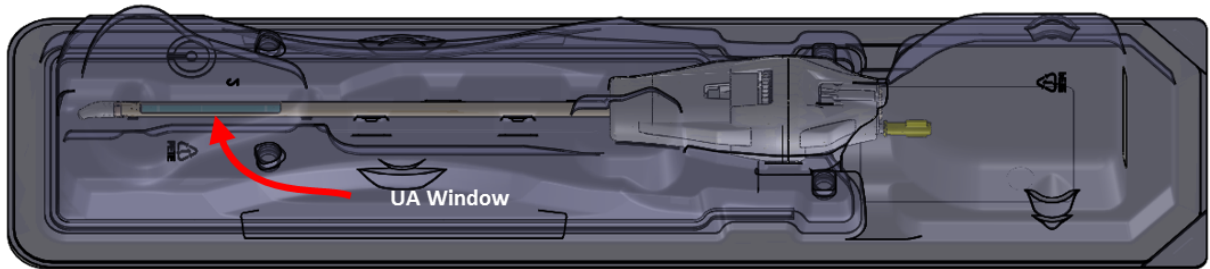

Figure 10: Examine the UA window for air bubbles
- d. Look through the package and carefully inspect the UA window for bubbles (Figure 10). There should be **no** bubbles of **any** size. If you see bubbles, gently tap the package-end close to the UA window against the work surface to dislodge them. If you still see bubbles, repeat the